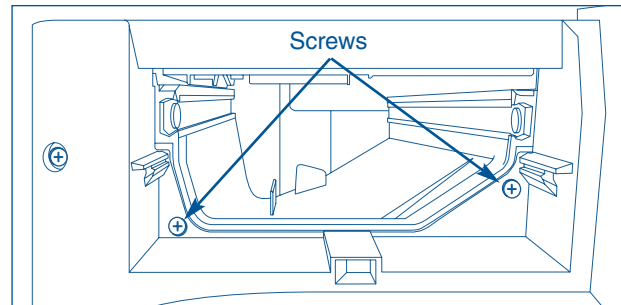

Figure 4-38.
2. Using a #2 square bit screwdriver, extract the two screws securing the detergent cavity dispenser to the console. (See Figure 4-38)